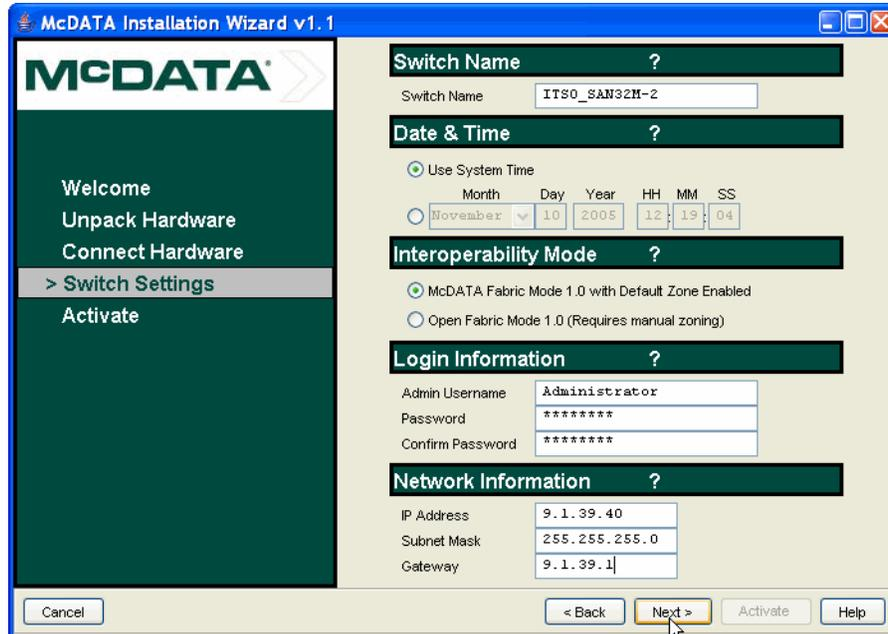

Figure 20 SANplicity wizard switch settings screen
5. Click **Next** to proceed to enter settings, as shown in Figure 20.